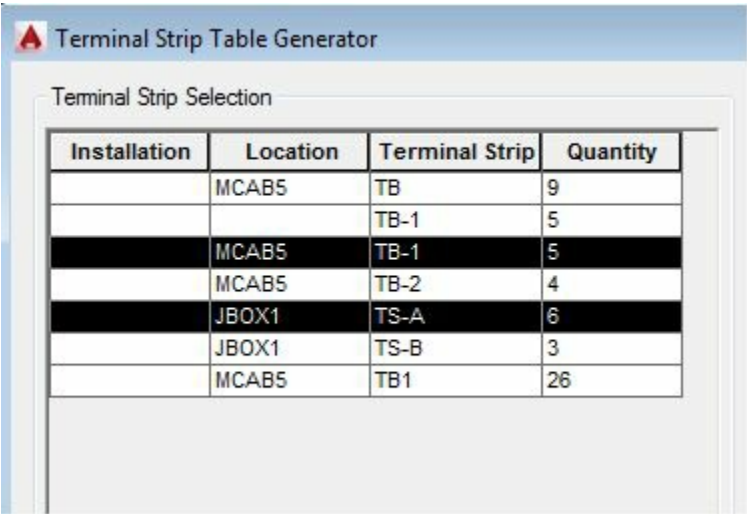

Figure-31. Terminal Selection
- Select the desired terminal from the **Terminal Strip Selection** table in the dialog box. For multiple selection, press and hold the CTRL key and then select; refer to Figure-31.